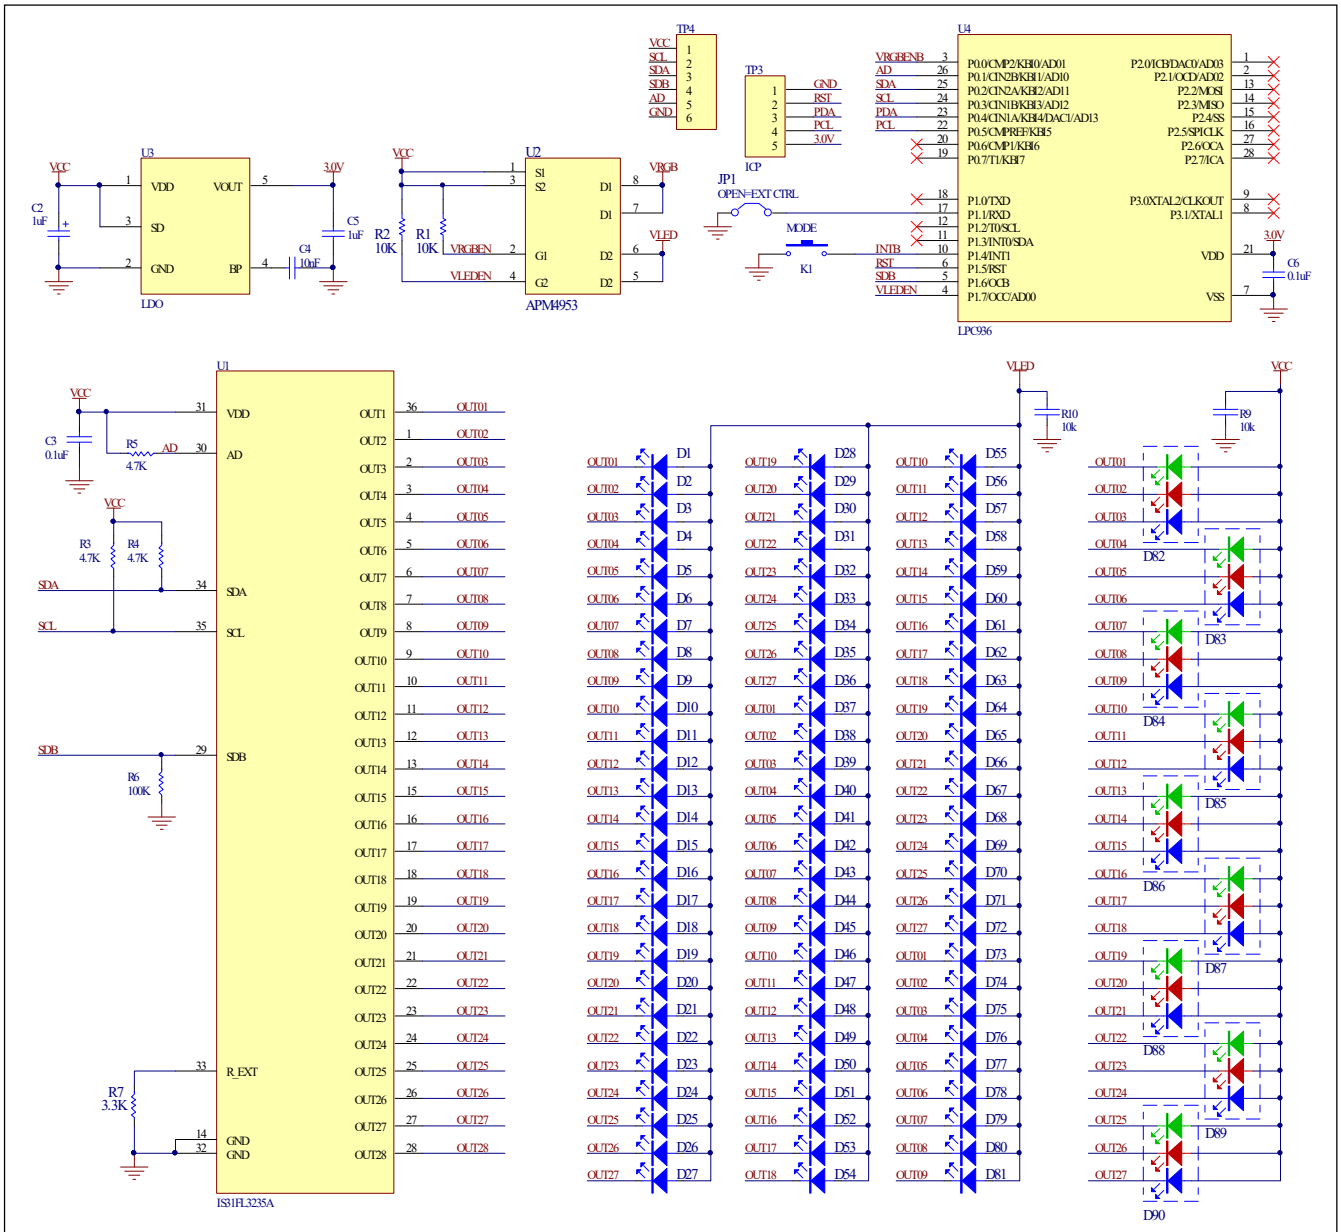

Figure 10: IS31FL3235A Application Schematic
*Bill of Materials, refer to Figure 10 above.*